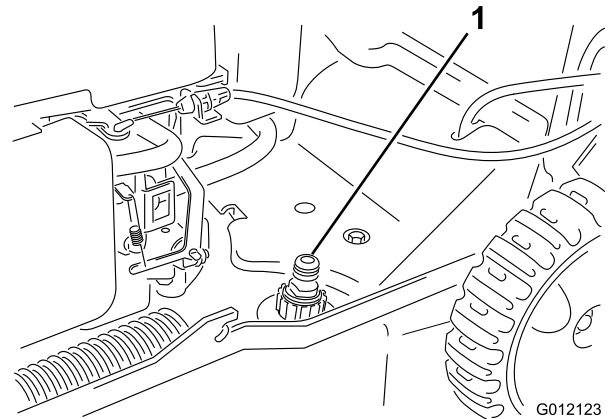

Figure 25
3. Attach a garden hose that is connected to a water supply to the washout port on the mower housing (Figure 25).